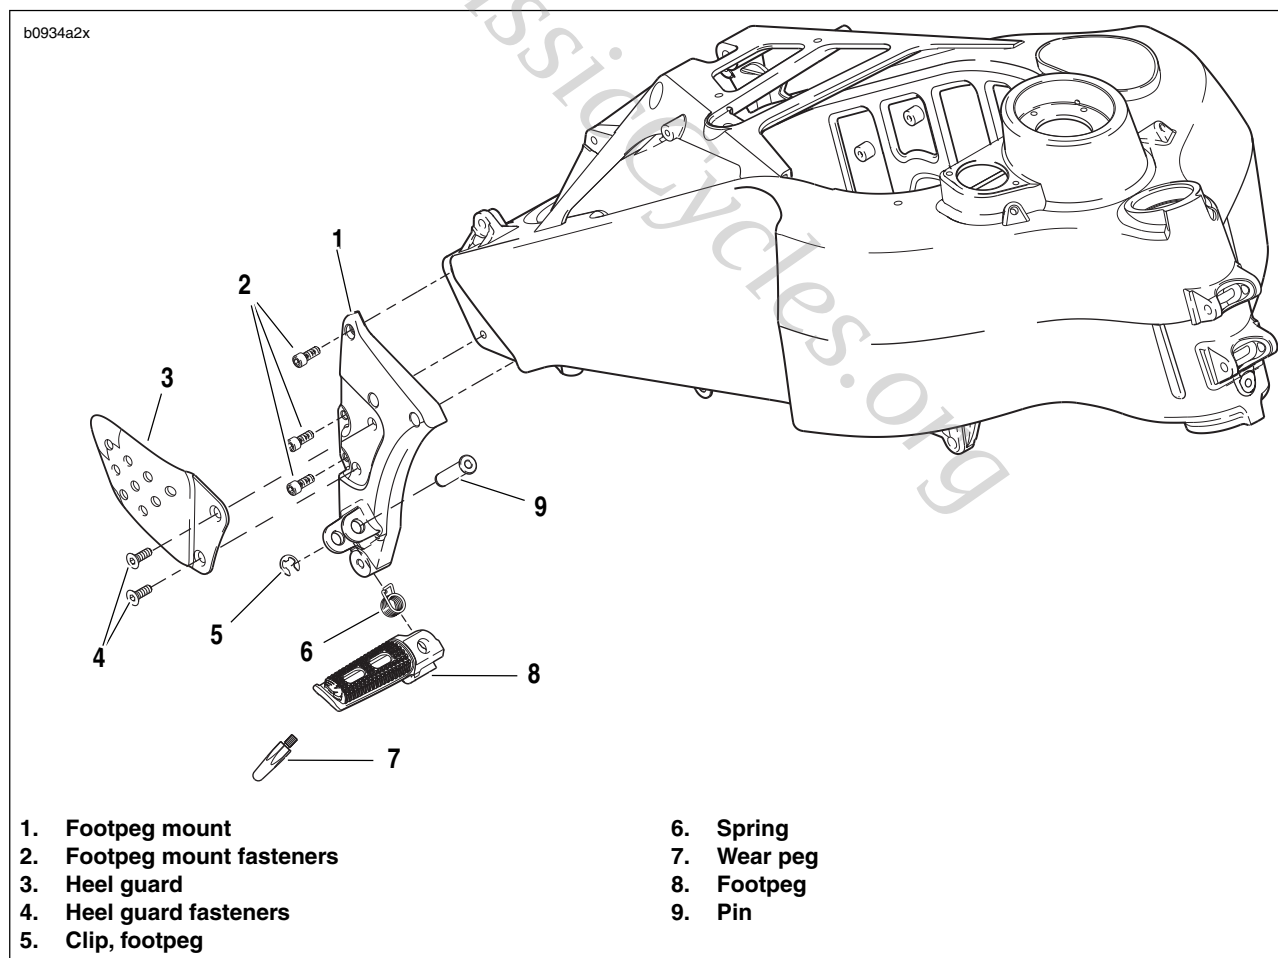

Figure 2-111. Rider Footpeg, Mount and Heel Guard Assembly
1. See Figure 2-111. Remove wear peg from end of footpeg assembly.
1. See Figure 2-111. Remove clip (5).
2. Remove footpeg pin (9).
3. Remove footpeg (8).
1. See Figure 2-111. Remove heel guard fasteners (4).
2. Remove heel guard (3).
1. See Figure 2-111. Remove footpeg mount fasteners (2).
2. Remove footpeg mount (1).
1. See Figure 2-111. Position footpeg mount (1).
2. Install footpeg mount with fasteners (2). Tighten to 108-132 **in-lbs** (12-15 Nm).
1. See Figure 2-111. Position heel guard (3) onto footpeg mount (1).
1. See Figure 2-111. Install clip (5).
2. Position footpeg (8) on to footpeg mount (1).
3. Install footpeg pin (9).
1. See Figure 2-111. Apply LOCTITE 272 (red) and tighten to 36-48 **in-lbs** (4-5 Nm).